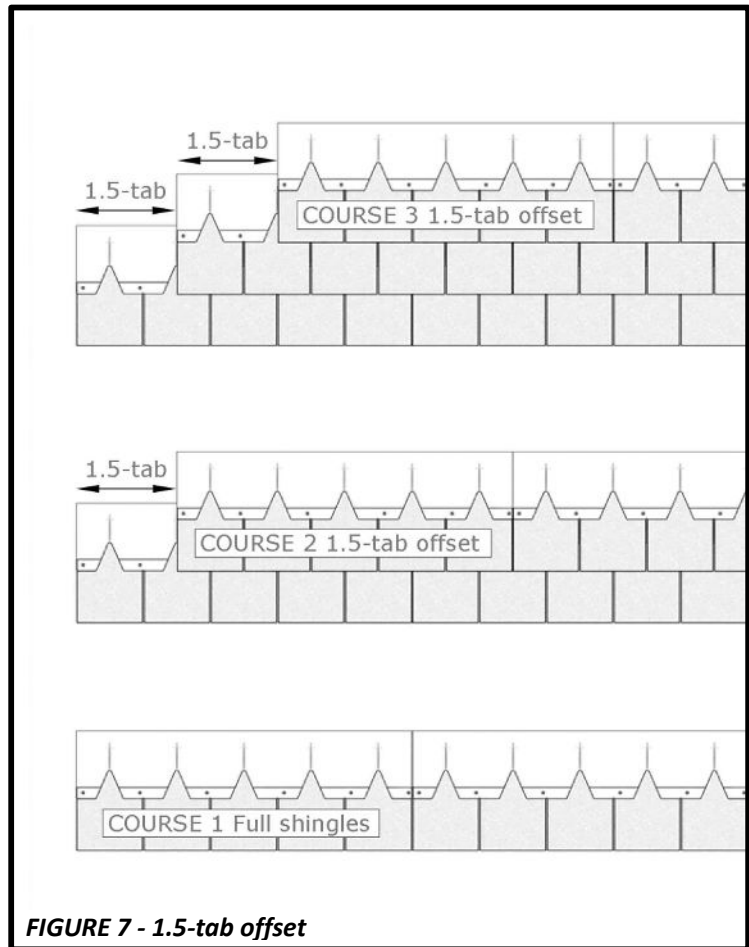

FIGURE 7 - 1.5-tab offset
- The offset between courses of Designer Slate: American Blends shingles must be **1.5 tabs**. See **Figure 7**.